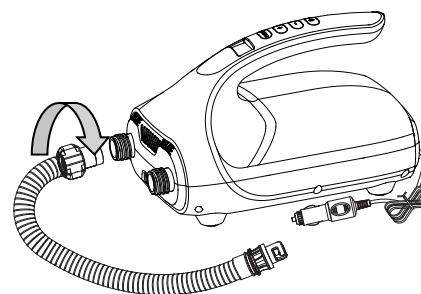

Figure 1
- Connect the end with Flexible conduit adaptor of the hose with the air pump inflation inlet (1), and twist clockwise to tighten it, as Figure 1.